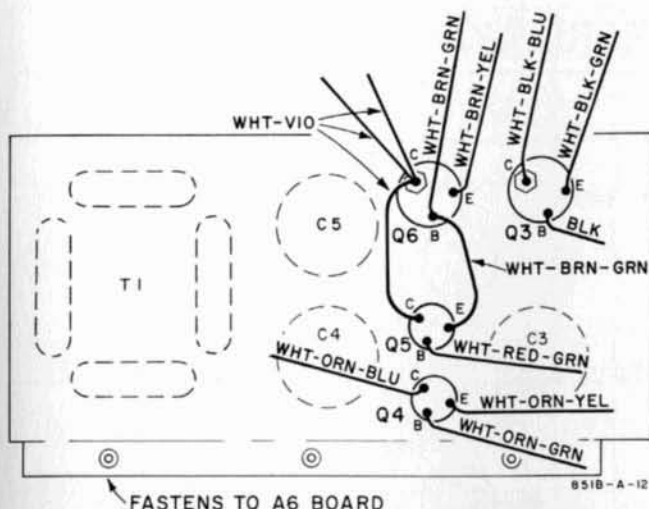

Figure 5-15. Under Side of Transistor/
h. The deck on which the transistors are mounted is now free of its fastenings and can be shifted so the under side can be exposed. One method is to pull it gently out from under the A6 Board, and then turn the deck over. Transistors and their terminals are identified in Figure 5-15.